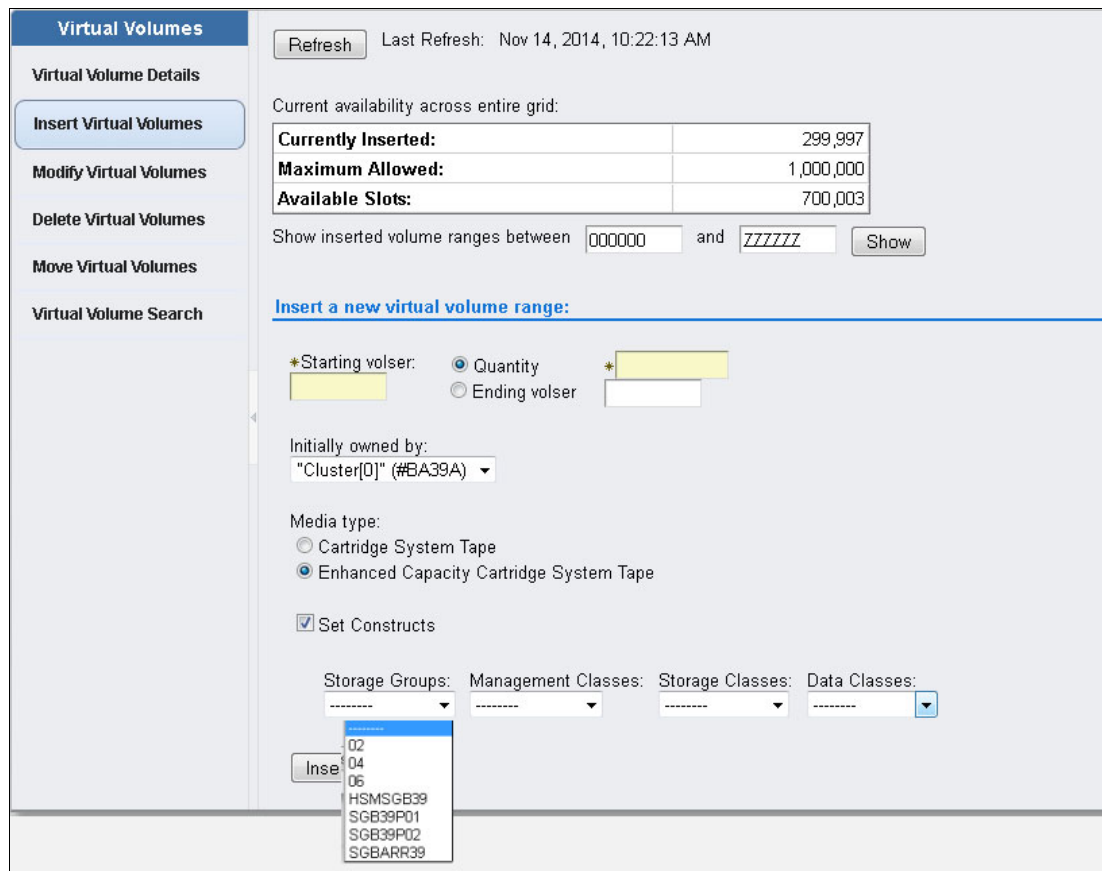

Figure B-4 Insert logical volumes by assigning static construct names
2. Insert your logical volumes into groups through the TS7700 MI, as described in 9.3.3, “TS7700 definitions” on page 546. You can assign the required static construct names during the insertion as shown at the bottom part of the window in Figure B-4 on page 844.
3. On the left side of the MI, click **Virtual** → **Virtual Volumes** → **Insert Virtual Volumes**. The window in Figure B-4 opens. Use the window to insert virtual volumes. Select the **Set Constructs** check box and type the construct names.